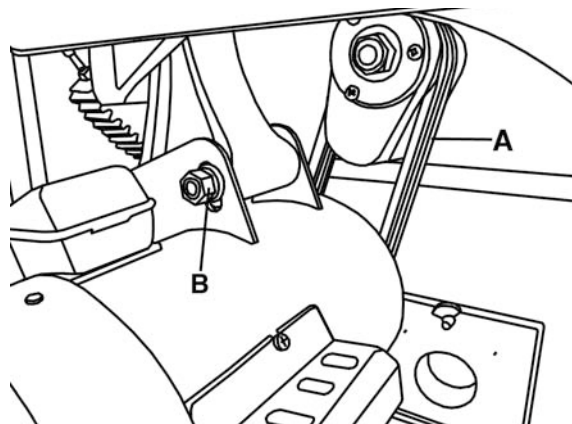

FIGURE 32
To remove the 3 V-belts (A) Fig.32, first lower the blade to its lowest point. Loosen the large hex. nut (B) and then take the tension off of the V-belts by lifting up on the motor. Remove the V-belts from the arbor shaft and the motor pulley and replace them with new ones. Lower the motor, the weight of the motor should apply enough tension and retighten large hex. nut (B). Check the V-belt tension after the saw has been used for a few hours. Adjust as necessary.